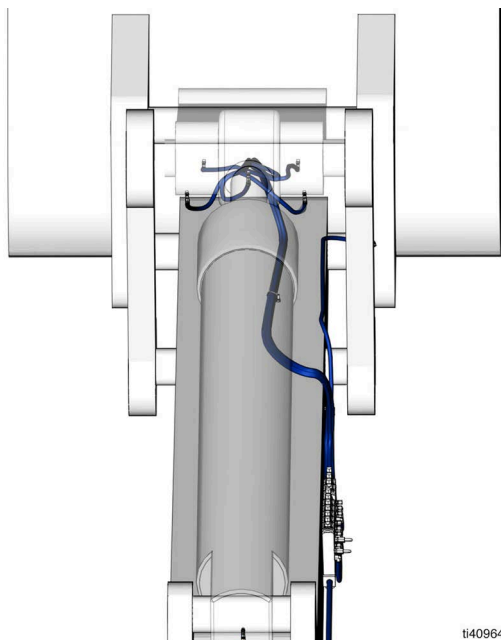

FIG. 24: Bottom View
- See FIG. 18 through FIG. 24 for hose routing examples.